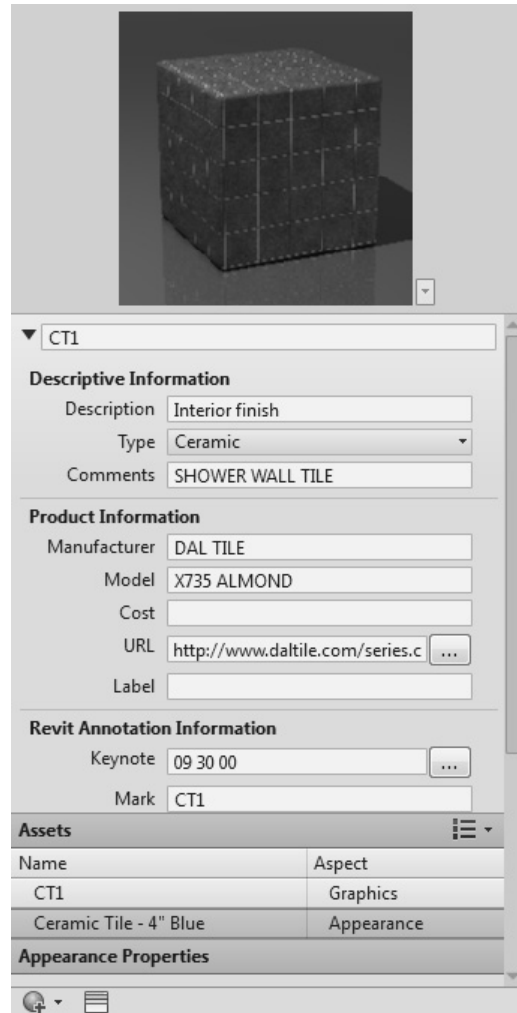

FIGURE 4-4.1 Material Editor; Identity panel
11. Finish entering the information on the *Identity* panel as shown in Figure 4-4.1.
Note that the *Type* being set to *Ceramic* in the *Identity* panel (Figure 4-4.1) only relates to which category the *Material* is listed under in the *Material Browser*, and does not directly relate to the actual material assigned in the *Appearance* panel. However, you should make sure they match so there is no contradiction.